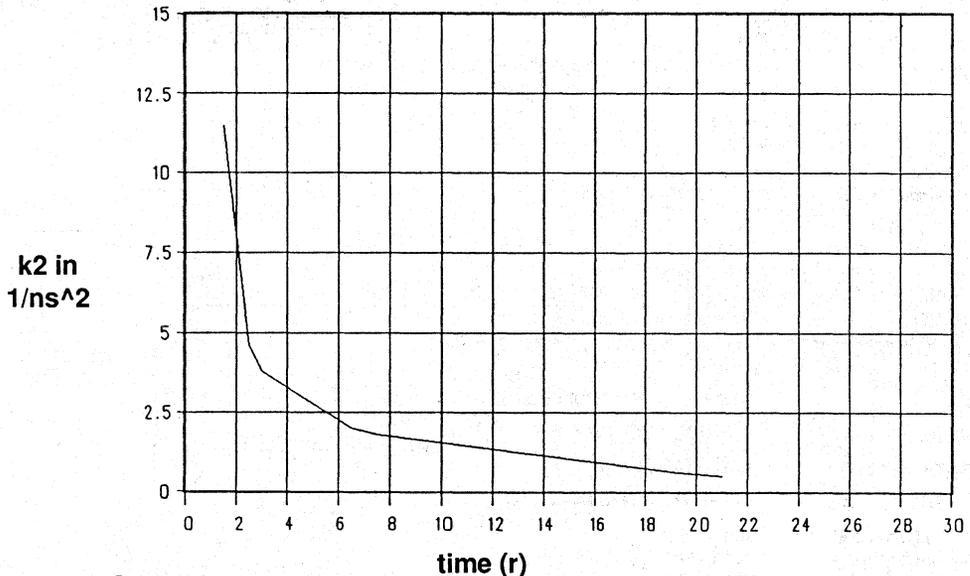

Figure 4. K2 Constant
The time from Δ_0 until the dot density equals zero was defined to be the "time to metastable release" or simply time(r). The relationship between k_2 and time(r) is given below in (5), and shown graphically in Figure 4. Recall that $MAX=2.5 \times 10^6$ and $a=\log(e)$.